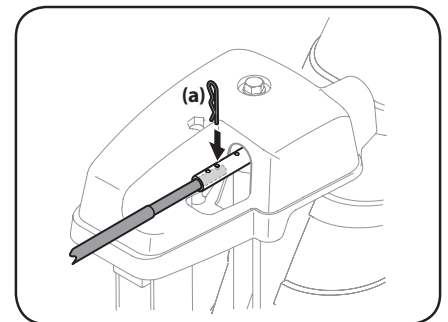

Figure 2-43
6. Push chute control rod toward the control panel until hole in rod lines up with middle hole in chute control input and insert cotter pin (a) removed in Step 1. See Figure 2-43.